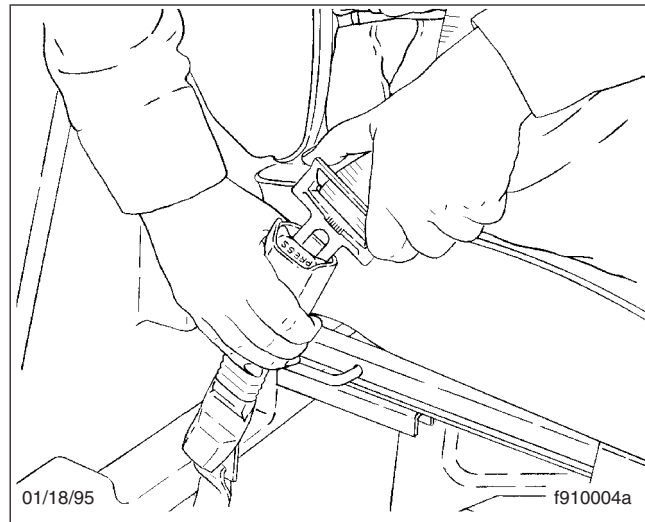

Fig. 6.8, Fastening the Three-Point Belt
2. Fasten the seat belt by pushing the latch into the buckle. Listen for an audible click. See Fig. 6.8.